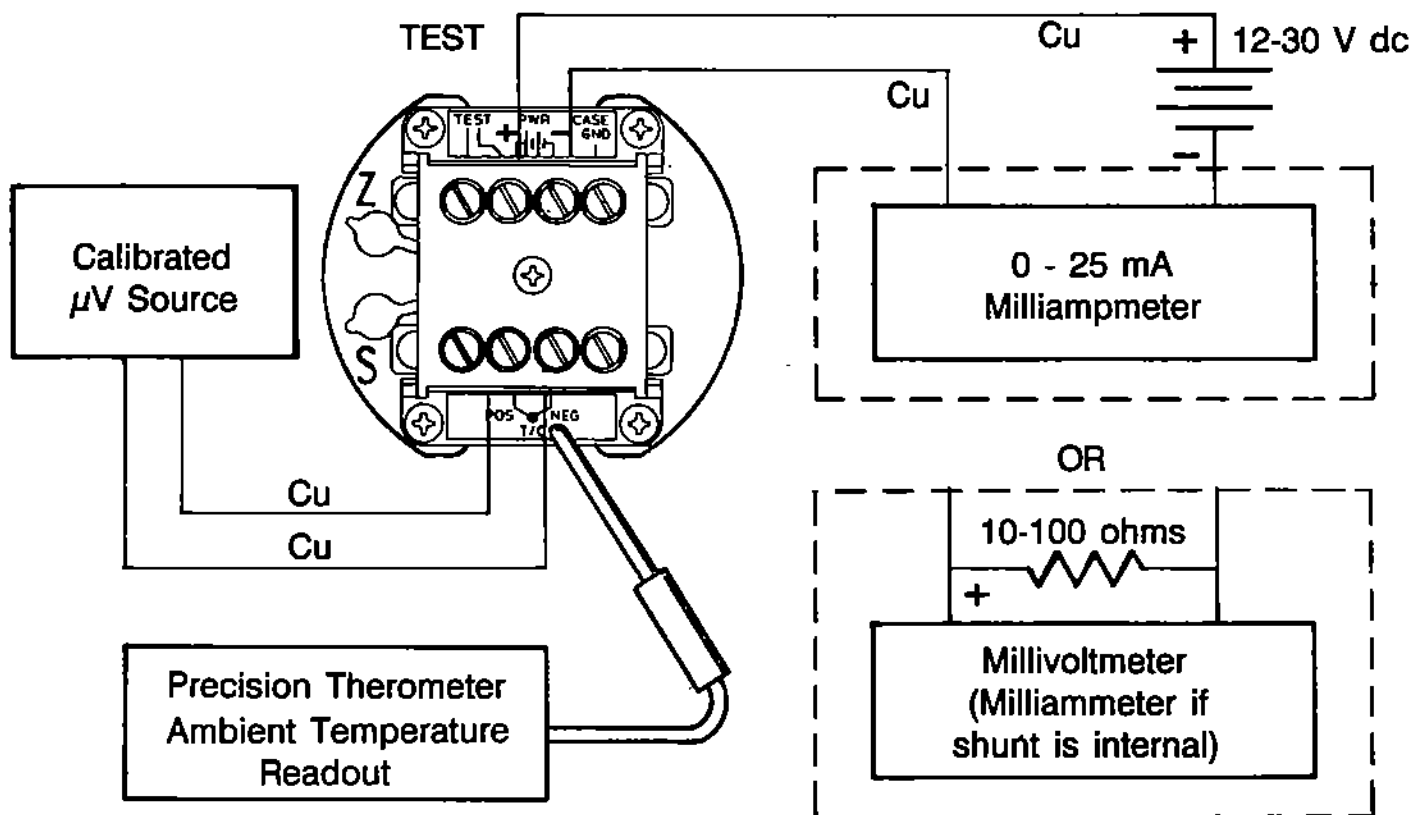

Figure 5-1 Calibration Setup Using Ambient Temperature
5. Refer to Figure 5-1 and connect the transmitter to the power supply, microvolt source, milliammeter (or current shunt and millivoltmeter). Place the temperature probe as close as possible to the 502A-E input terminals. **Better calibration stability is obtained if the electronic assembly is configured while in the case.**